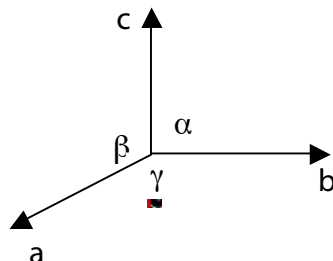

Figure 1.4: The six elements of a unit cell
- (a) (i) Use the references (Steadman R, 1982, Crystallography, Van Nostrand Reinhold (UK) Co. Ltd, Norfolk), or any other one and define a unit cell and a primitive cell. Note the difference between the two.
- (ii) A unit cell is defined in terms of six elements or parameters: **a**, **b**, **c** the lengths of the cell edges (taken as axes); α , β , and γ , the angles between axial direction as shown in Fig. 1.4.